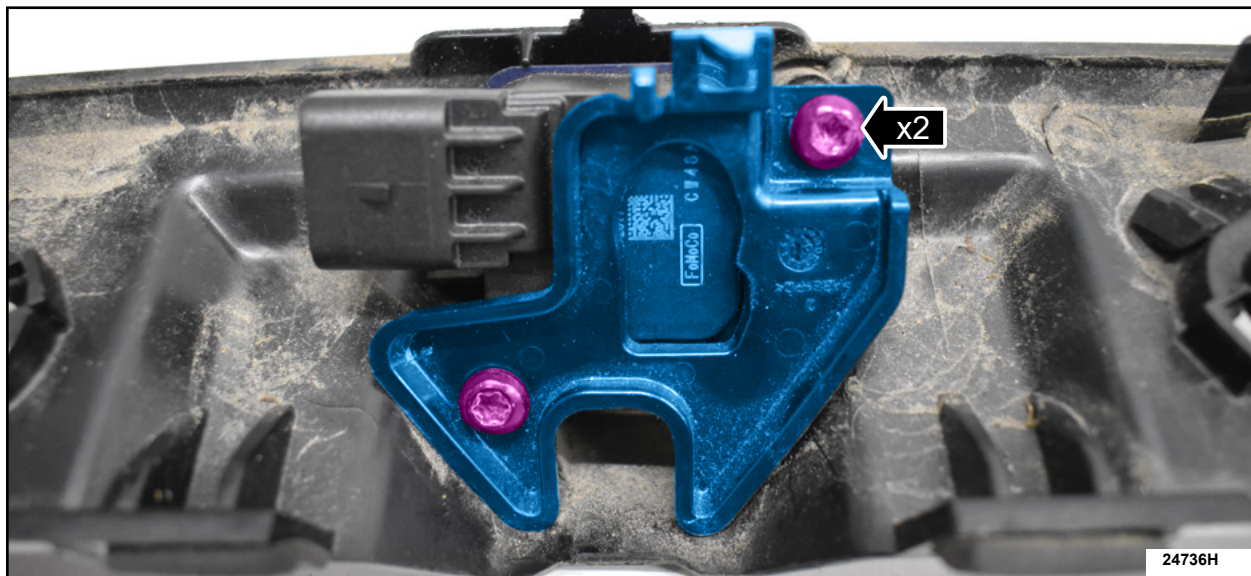

FIGURE 10
9. Remove the screws and the retaining plate. See Figure 10.